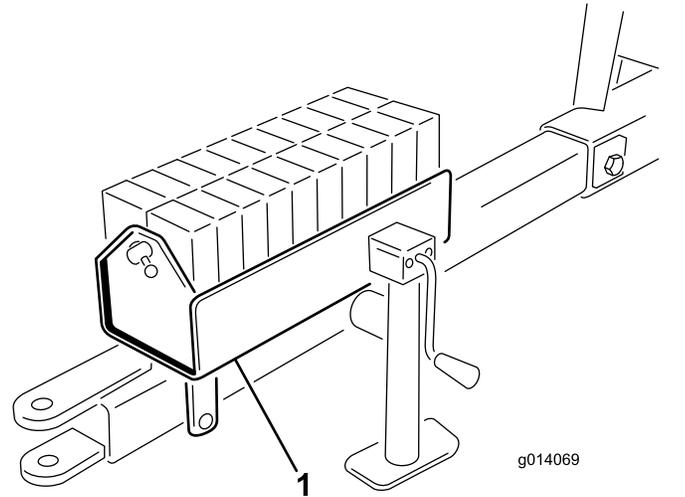

Figure 6
5. Fill the weight case with the weights and install the bar and pin (Figure 6).